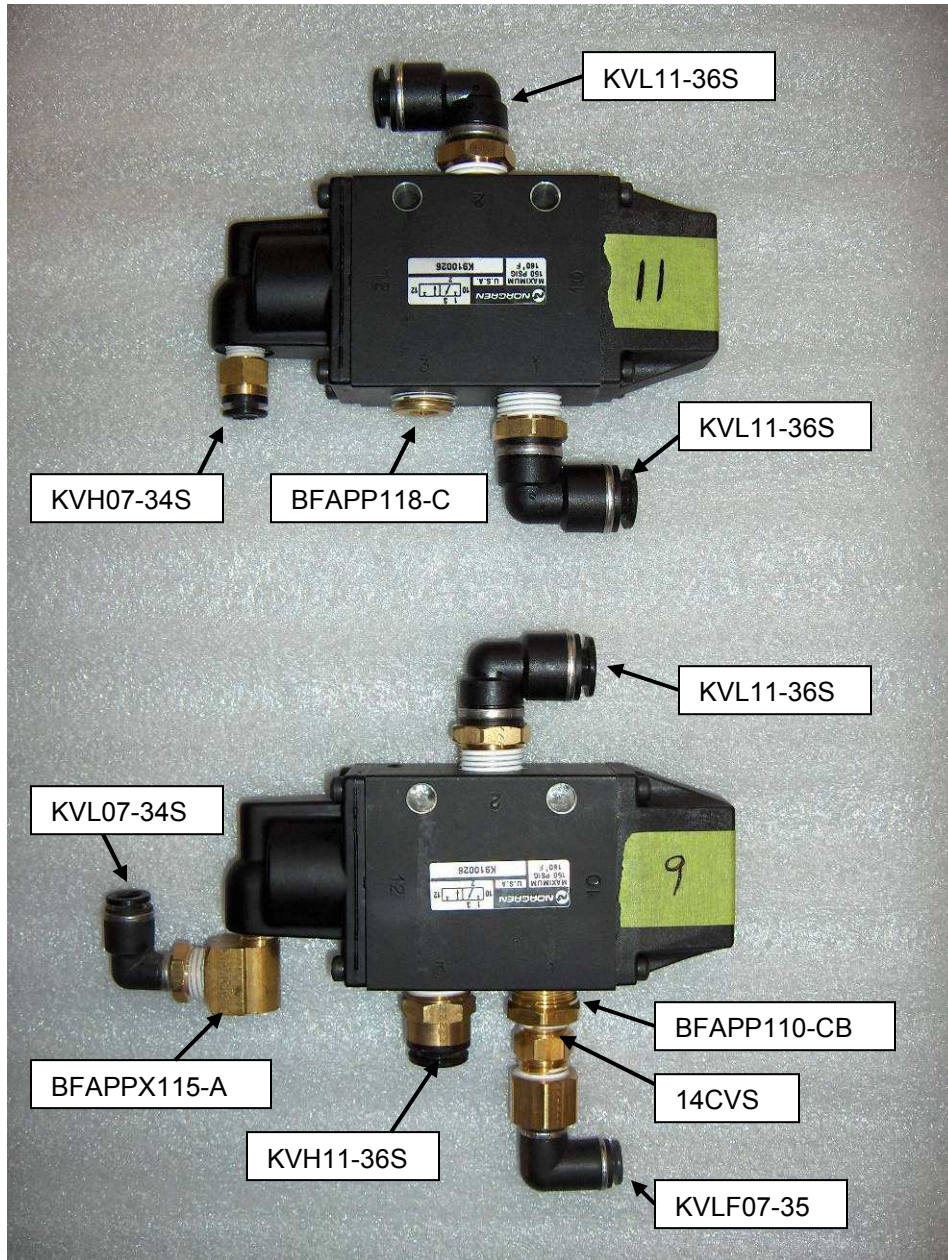

Figure 1 – Fittings for valves #9 & 11
1. Install fittings on valve #'s 9 & 11 (K910026) and valve #6 (D0045A1W2) as shown in Figures 1 & 2.